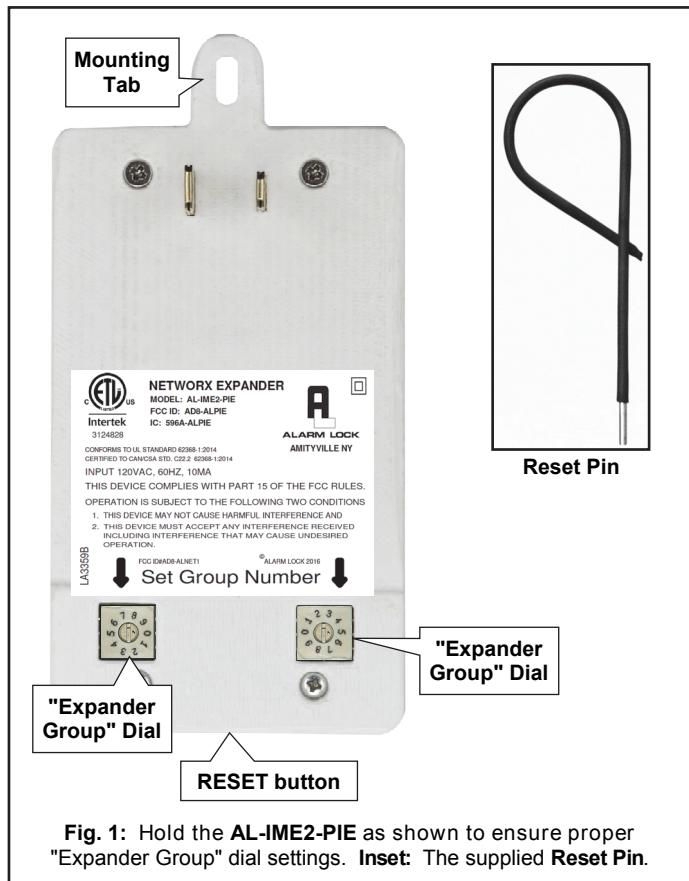

Fig. 1: Hold the **AL-IME2-PIE** as shown to ensure proper "Expander Group" dial settings. Inset: The supplied **Reset Pin**.
- (Optional) Use the **Mounting Tab** (see Fig. 1) to prevent unauthorized access to the **AL-IME2-PIE** by securing the unit to the wall outlet (replace the existing center outlet cover screw with the supplied screw)
On the inside surface of the Expander are two rotary "Expander Group" dials. When the **AL-IME2-PIE** is held in your hand in the orientation shown in Fig. 1, use these dials to set the "Expander Group" value ("00" through "99" are valid selections). All version 2 Gateways include an identical set of dials. *The dial value set on your Gateway MUST match the dial value set on your AL-IME2-PIE.*
be set to a different "Expander Group" value (along with its associated Expanders). The "Expander Group" value determines which Expanders are associated with each Gateway, thus preventing Gateways from discovering unintended Expanders. **Note:** The small "selection arrow" on each dial must be pointing directly to the desired value. *Hold the **AL-IME2-PIE** with the label "up" as shown in Fig. 1.*
**IMPORTANT:** *ALWAYS* reset the Expander memory, even if the Expander is new "out of the box" and/or has never been used previously. The **RESET** button described below can be accessed through a small hole in the unit (location shown in Fig. 1). To depress the **RESET** button, simply insert supplied **Reset Pin** into the hole. Proceed as follows: